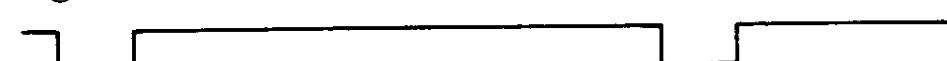

Fig. 6-13 Clocks Check
- (1) Set the **TR4132/4132N POWER** switch and the **TR1604 MEMORY** switch to **OFF**, and then connect the Connector P1 to the **TR1604** circuit board. And turn the **TR4132/4132N POWER** switch to **ON**.
- (2) Check the 1MHz clock and Clocks ① through ⑨. See Fig. 6-13.